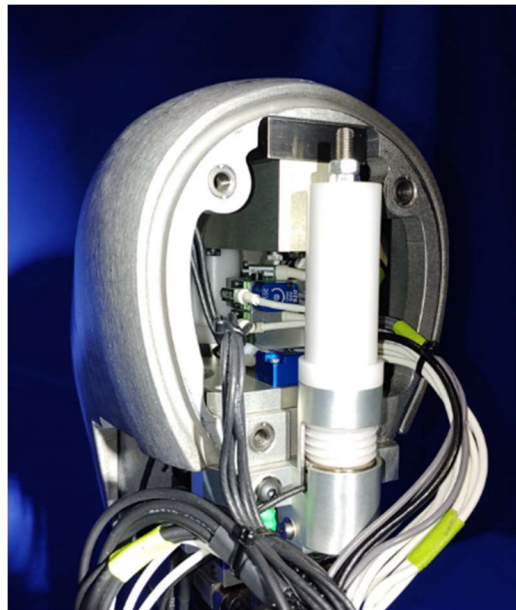

Figure 3-34. Head instrumentation wire routing
- 3.3.15 Route the instrumentation wires according to Figure 3-34.